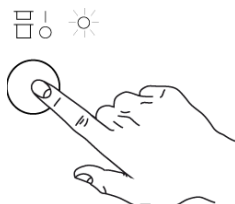

Fig.27
- 4- Close the door and press button "A" to turn ON the machine. GREEN indicator light "D" is ON. (Fig.27)